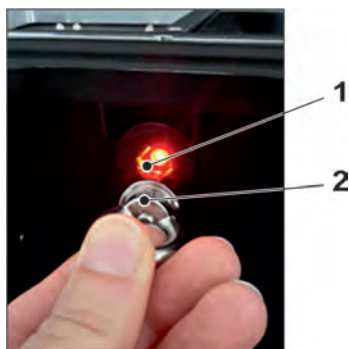

Fig. 30-1 Waking up the NivuLevel Mobile
2. "Wake up" NivuLevel Mobile: to do this, hold the supplied magnet (Fig. 30-1 Pos. 2) in front of the Reed contact (Fig. 30-1 Pos. 1; at the front of the NFM) until the LED lights up.